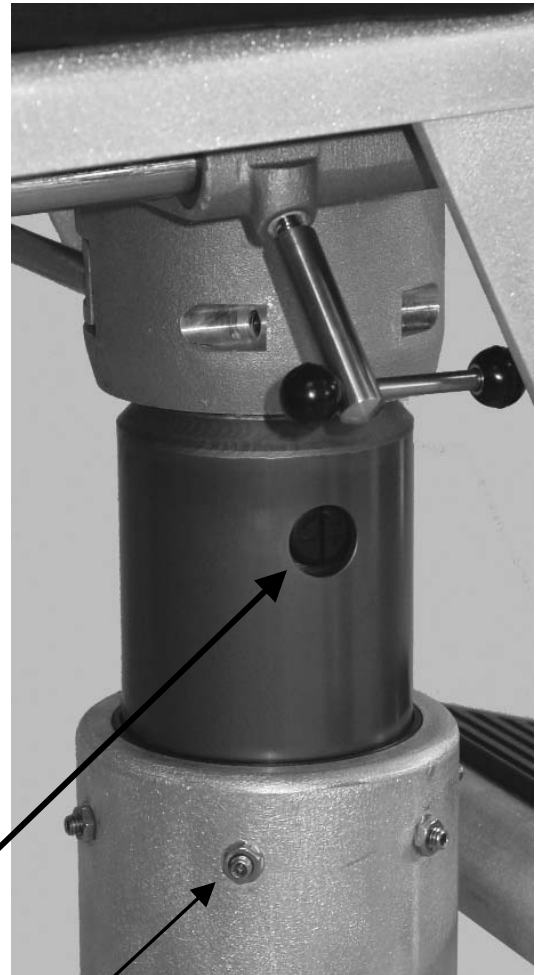

Figure 11
- Rebound damping (upward) speed is adjusted using the knob on the lower back of the pedestal. There are 10 positions available. Turning the knob fully counter-clockwise (1) will give the fastest recovery to full stroke between shocks; turning the knob fully clockwise (10) will give the slowest response time. (Figures 11 & 12)